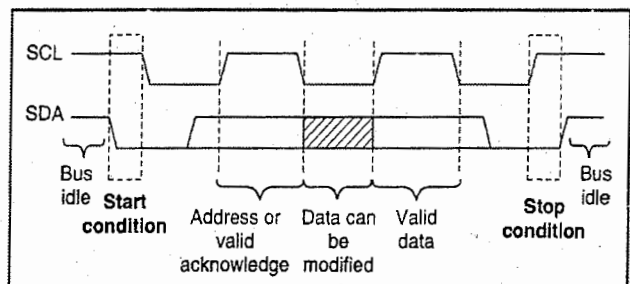

Fig. 14.12.3 : Data transfer sequence on the serial bus
Fig. 14.12.3 shows the sequence of data transfer on the bus.
1. **Bus not busy** : When the bus is idle both the SCL and SDA lines are high as shown in Fig. 14.12.3 before the start and after the stop condition bus is free.
3. **Data valid** : If after the start condition, the data line SDA is stable when SCL is high, then it represents valid data as shown in Fig. 14.12.3. If the clock line goes low the data line should be changed.